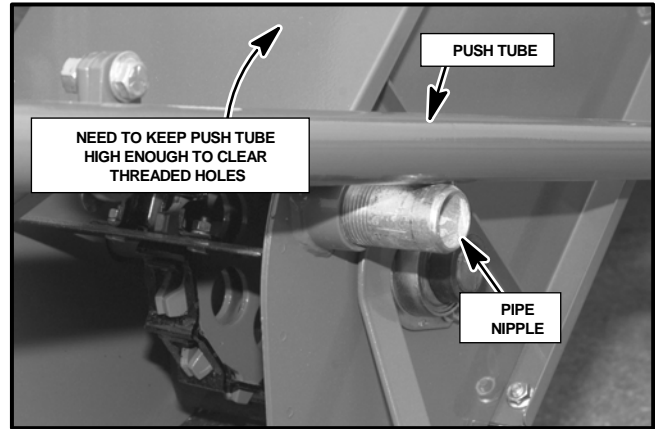

Figure 16
1. Raise the push tube high enough to clear the two threaded holes on each side of the lower part of the elevator (See Fig. 16).